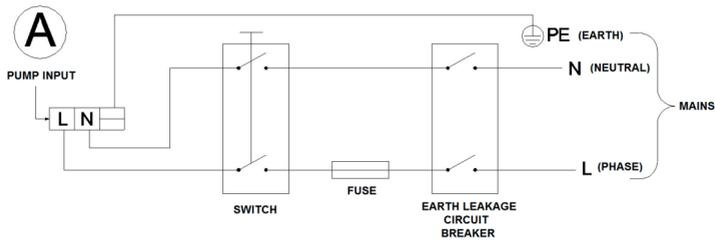
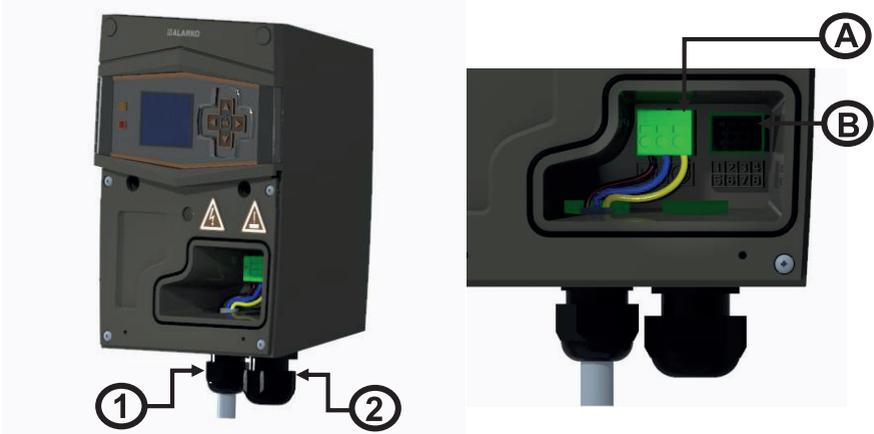

Figure 6.8: Electrical Connection Diagram
Figure 6.10: Cable Gland View
Electrical connection diagram is given at Figure 6.8.
5. Pull the power supply cable through the no.1 cable gland shown in. Figure6.10
6. Make the electrical connections of the passed cable to the socket compatible with "A" in Figure 6.10, as shown in Figure 6.8.